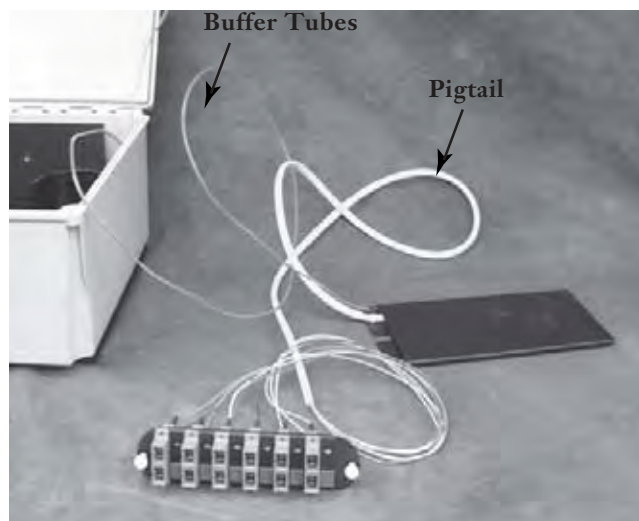

Figure 14
**10.4** Install connectors into the appropriate panels (Figure 14).
**11.1** The unterminated ends of pigtails are spliced to buffered fibers in a splice tray (Figure 14). Prepare the buffer tubes for splicing.